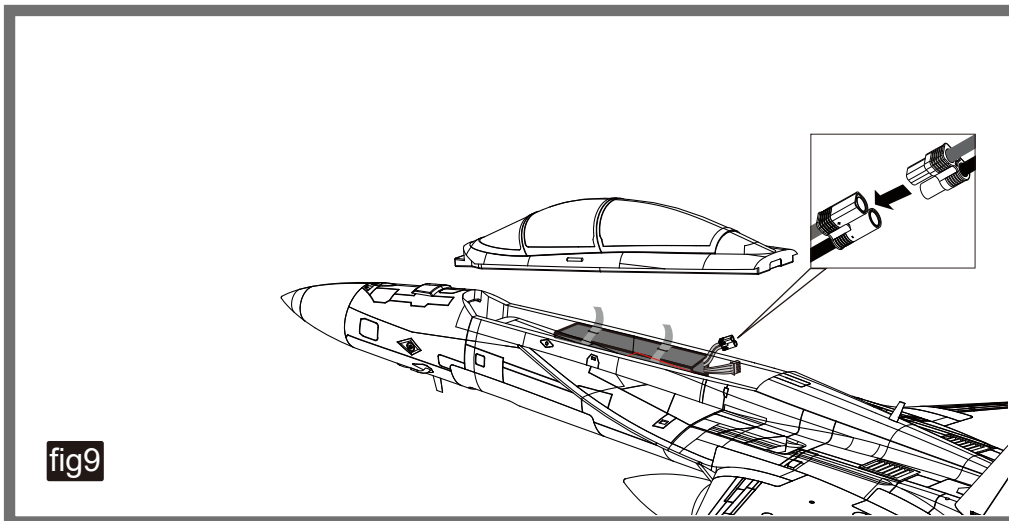

fig9
2. Apply the hook tape to the cable end of the battery (fig9).